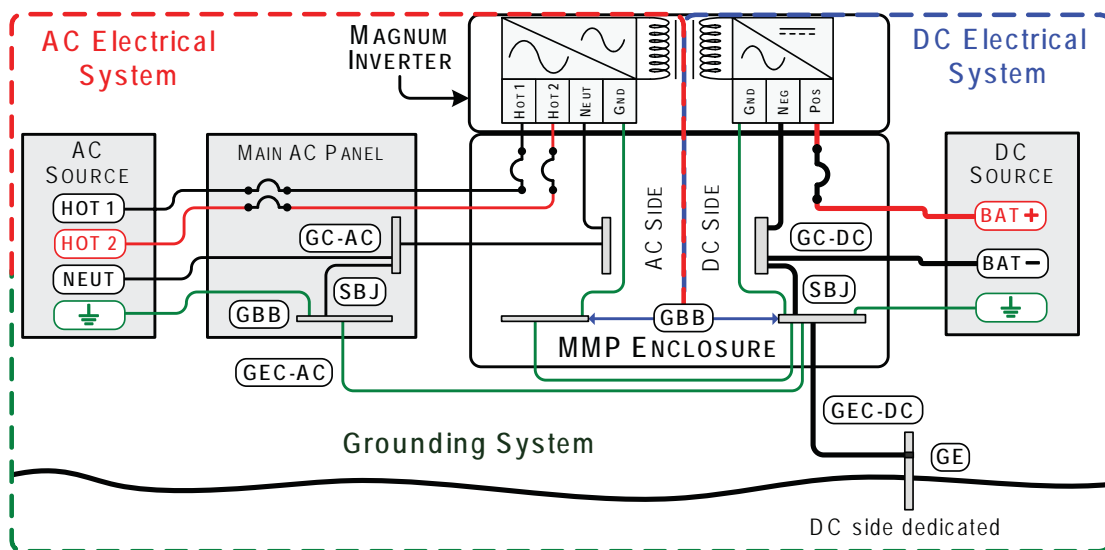

Figure 3-19, Single Connection to DC Ground Rod (Method 1)
1. Single Connection to Ground (Method 1): The AC Grounding Electrode Conductor (GEC – AC) is bonded to the DC ground point and the DC Grounding Electrode Conductor (GEC – DC) is the *only connection* to the grounding electrode, which must be a rod, pipe, or plate electrode (see Figure 3-19).